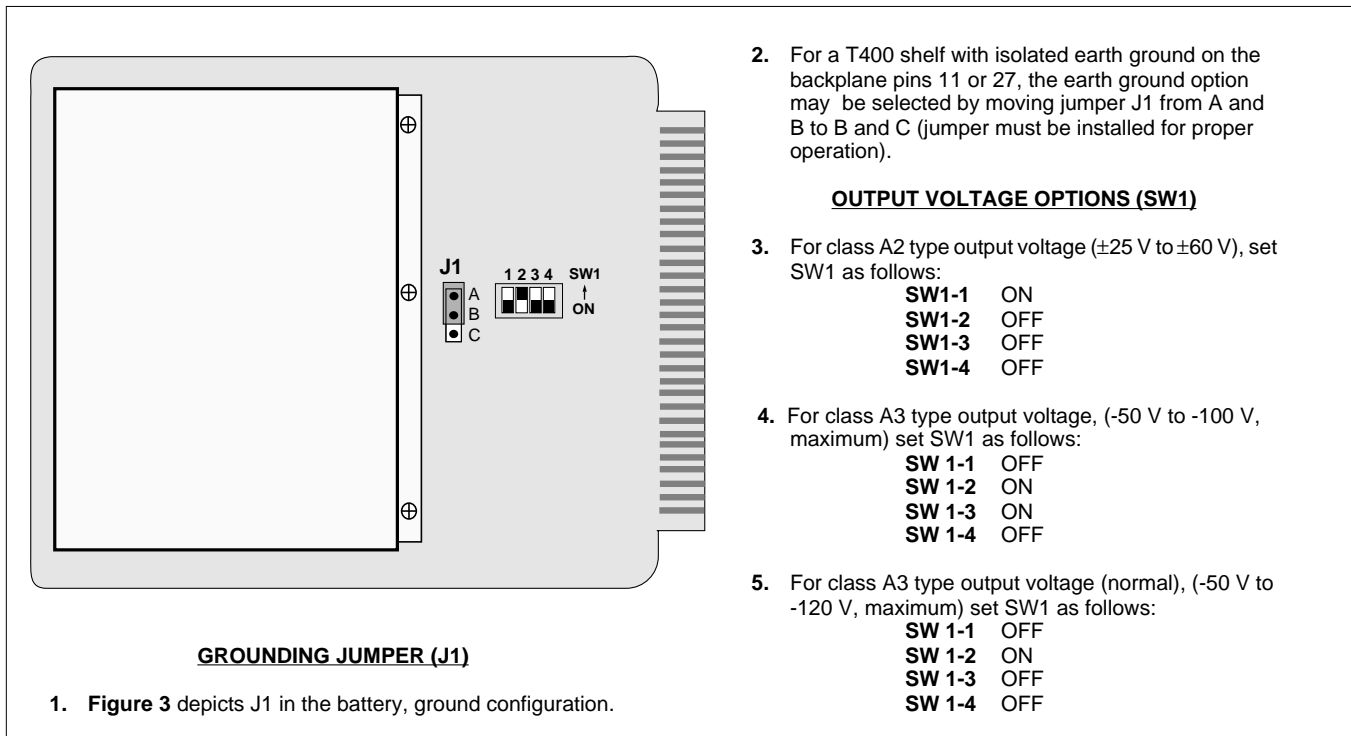

Figure 3. T400 U-RPM II Option Locations
2.2 The T400 U-RPM II has a jumper selectable ground for the faceplate and shield to select between earth ground or battery ground as shown in **Figure 3**. The grounded metal faceplate and shield attaches to the printed circuit board. A faceplate-mounted LED labeled **LOOP RESISTANCE FAULT** turns *On* when loop resistance is excessive or the loop is open to the repeater.
The T400 U-RPM II contains options for Class A2 output (up to ± 60 V) or Class A3 (-50 V to -100 V or -120 V) operation. See **Figure 3** for option locations and settings.